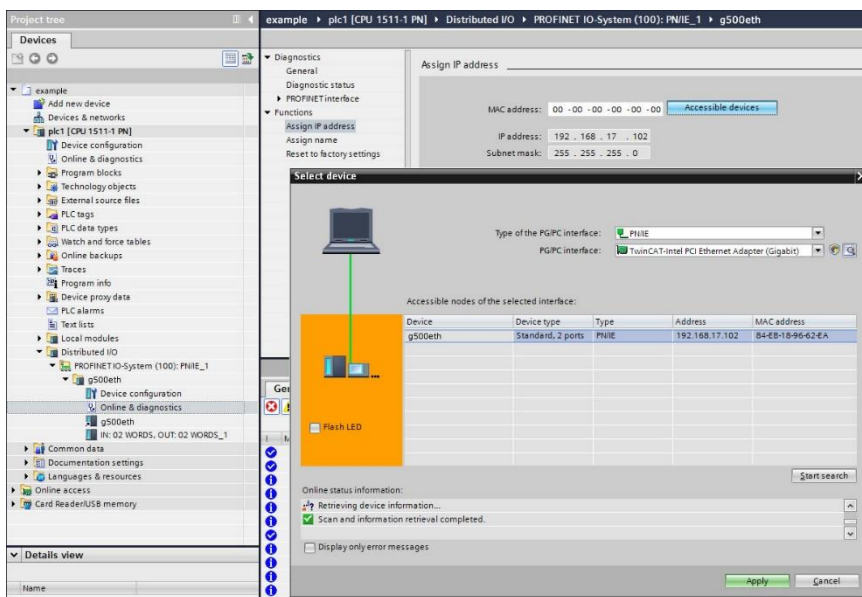

Figure 77: Discover PROFINET Devices on the Network
In the **Project tree**, expand **plc1...Distributed I/O...PROFINET IO-System (100):PN/IE_1**. Expand the device and double-click **Online & diagnostics**. In the next panel, expand **Functions** and select the **Assign IP address** node. Click the **Accessible devices** button. Select the appropriate **PG/PC interface** and click the **Start search** button to discover and display the PROFINET devices on the network as shown in Figure 77. Select the device and click the **Apply** button.